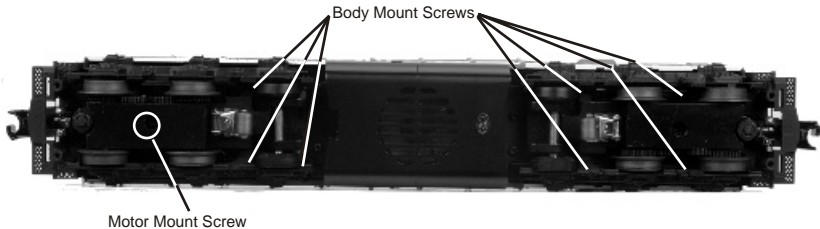
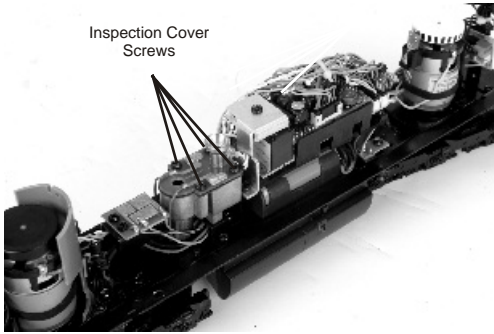

Figure 6. Body Removal Screw Locations
Figure 11. Inspecting the Smoke Unit Wick
1. To access the gear box, remove the cab from the chassis by unscrewing the body mount screws as seen in Figure 6 and lifting the cab from the chassis.
2. Once the cab is removed, remove the trucks by unscrewing the black Phillips motor mount screw located on the underside of the drive trucks (see Fig. 6).
If you experience poor or no smoke output when the smoke unit is on and has fluid, check the wick to see if it has become hard, blackened, and nonabsorbent around the heating element. After removing the locomotive body from its chassis (See Figure 6), remove the smoke unit inspection cover (see Fig 11). After removing the inspection cover screws, lift the inspection plate away and inspect the wick. If it is darkly discolored and hard, it should be replaced.